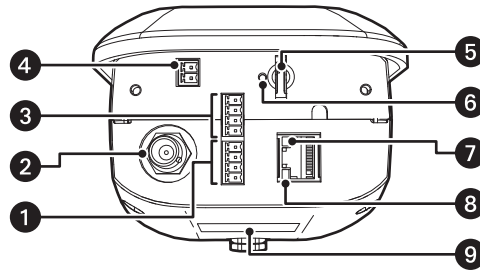

Figure 1. Camera Features
NOTE: Figure 1 shows the camera with the back cover removed.
3. Connect all wires and cables (refer to Figure 1 on page 5).